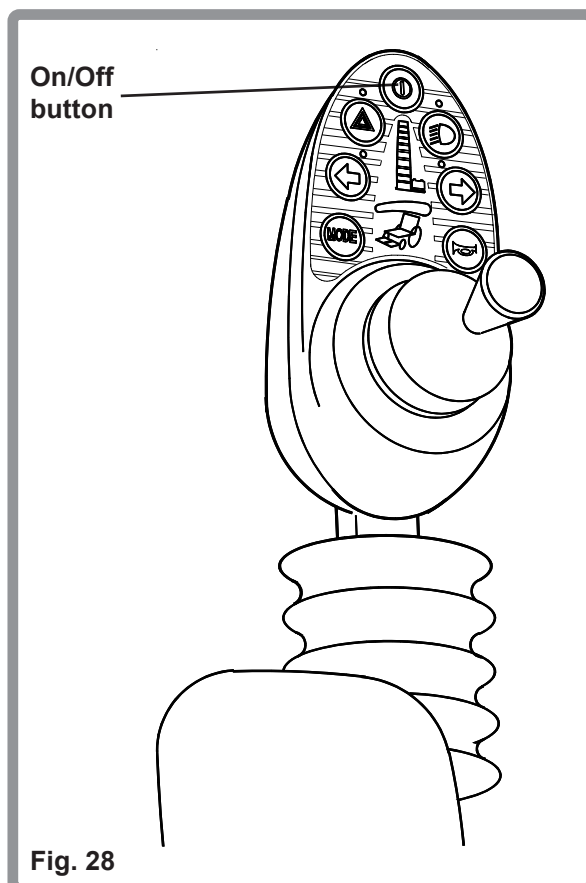

Fig. 28
1. Switch the chair on via the On/ Off button (Fig. 28).